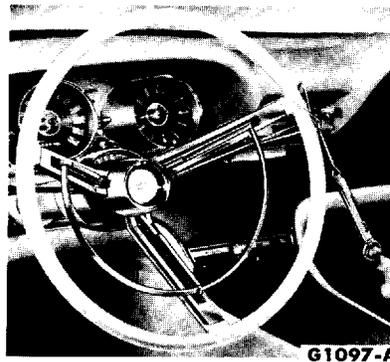

FIG. 5—Turning Effort Check
3. Attach a spring scale at a 90° angle to a spoke of the steering wheel (Fig. 5). Measure the pull required to turn the wheel at least one complete revolution in both directions. The steering effort should not exceed 5-6 pounds rim pull.